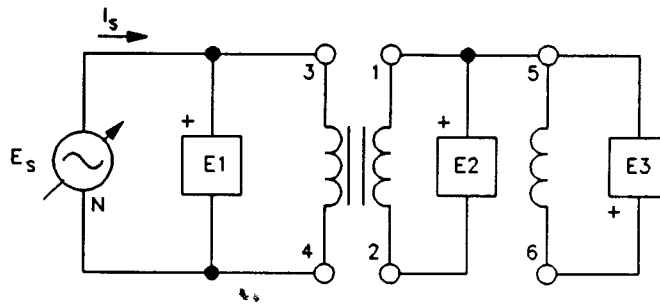

Figure 7-8. Transformer Windings Connected in Series.
- 3. Ensure that the DAI LOW POWER INPUT is connected to the main Power Supply, set the 24 V - AC power switch to the I (ON) position, and ensure the flat cable from the computer is connected to the DAI.
- 5. Set up the transformer circuit in Figure 7-8, and connect terminals 1 and 5 together as shown. Note that the ac input power in this circuit is connected at winding 3-4.